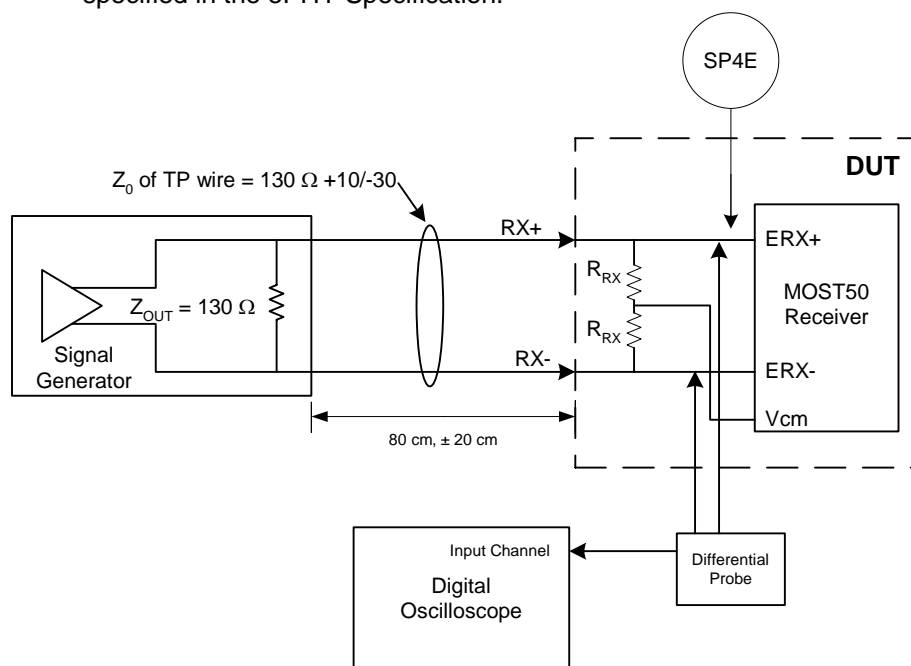

Figure A-6: NIC Receiver Tolerance Test Setup
A diagram showing the test setup used to measure the receiver tolerance is shown in Figure A-6. The Signal Generator, which simulates the worst-case transmitter, transmits the SP4E signal specified in the ePHY Specification.
- Configure the system as shown in Figure A-6 for testing.